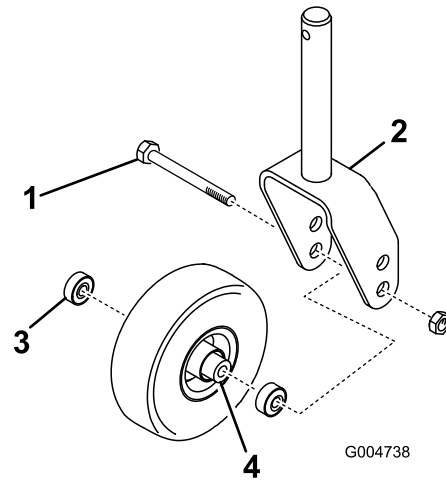
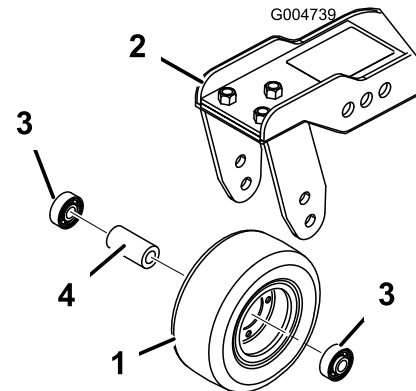

Figure 84
Figure 85
or the castor pivot arm (Figure 85). Grasp the castor wheel and slide the bolt out of the fork or pivot arm.
1. Remove the locknut from the bolt holding the castor wheel assembly between the castor fork (Figure 84)
2. Remove the bearing from the wheel hub and allow the bearing spacer to fall out (Figure 84 and Figure 85). Remove the bearing from the opposite side of the wheel hub.